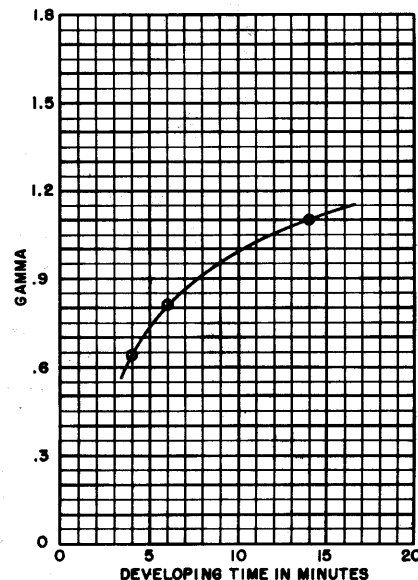

Fig. 12
- a. Plot the three corresponding values of gamma and development time in the space provided for the purpose as shown in Figure 12.
- f. Prepare a time-gamma curve for each color record, similar to Figure 12. These curves will enable you to obtain a set of separation negatives all having the same gamma, provided you follow the same technique. Films with different emulsion numbers, though of the same trade name, may have different characteristics. At least one exposure with each filter should be made and the gamma checked against your previous curves. If there is much change, complete new tests should be made; if only slight change, alter your curves to correspond.